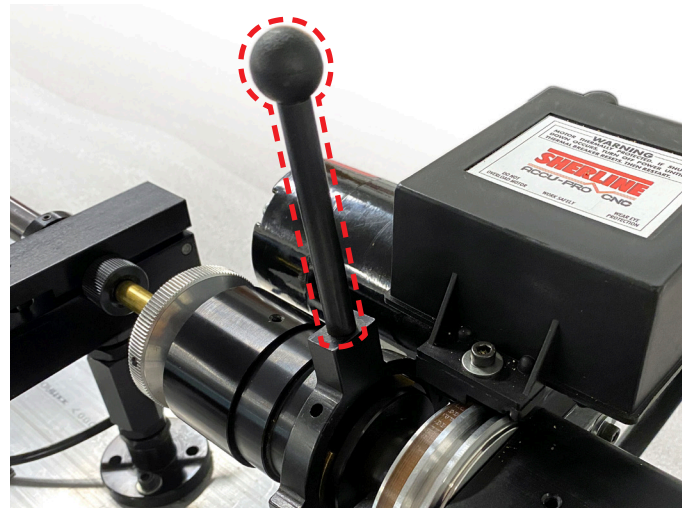

FIGURE 5
G. Now close the collet by pulling the engagement lever back. The stock should be held securely in the collet now and the engagement lever should be in the closed position. If not, open the collet, turn the draw bar knob (2) more clicks CW, and close the collet again until the collet closes securely on the stock.
3. Now you are ready to assemble the pneumatic components. Remove the engagement lever (P/N 11501) from the lever collet closer (see Figure 5).